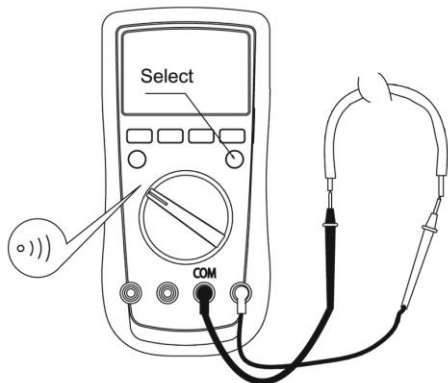

figure 5
D. Testing for Continuity (see figure 5)